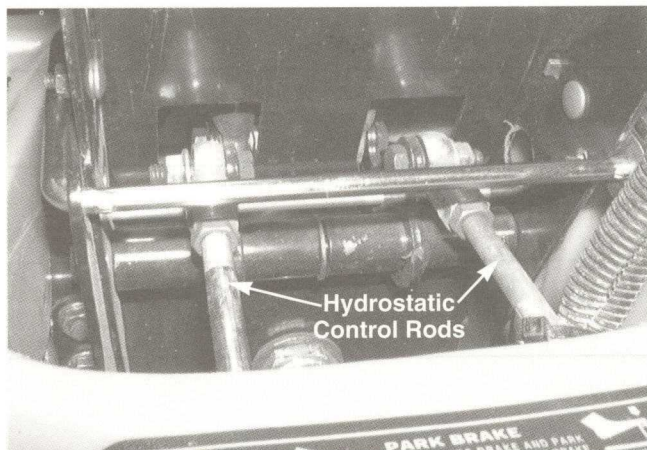

FIGURE 17.
27. Locate the hydrostatic control rods that run from the lower bellcrank assemblies to the hydrostatics. See figure 17.
33. Tighten all four hex jam nuts that maintain all the alignaball positions on the hydrostatic control rods using a 9/16 wrench. See figures 17 and 18.